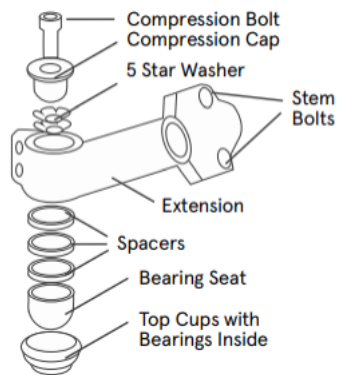

Fig. 3
Step 3: Handlebar & Handlebar Stem Assembly (Refer to Figs. 3 & 4)